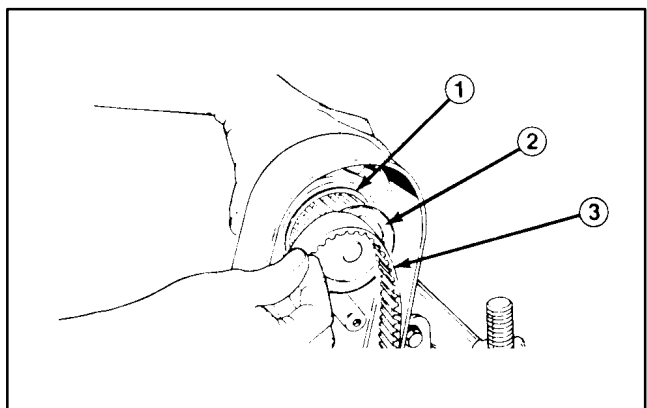

Figure 13
NOTE: Check to see that motor pulley set screws are tight on motor shaft before installing motor onto cutting unit (Fig. 13).
2. Insert the reel drive motor pulley through the housing and slip the cutting unit drive belt over the pulley (Fig. 13).